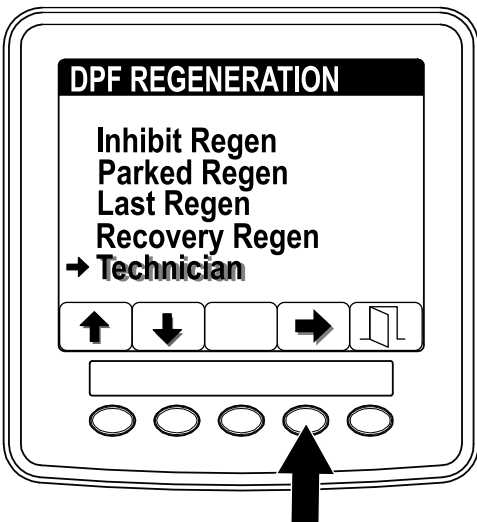

Figure 36
- Access the DPF Regeneration menu, and press buttons 1 or 2 to scroll down to the TECHNICIAN option (Figure 36).
- Press the button 4 to select the Technician entry (Figure 36)